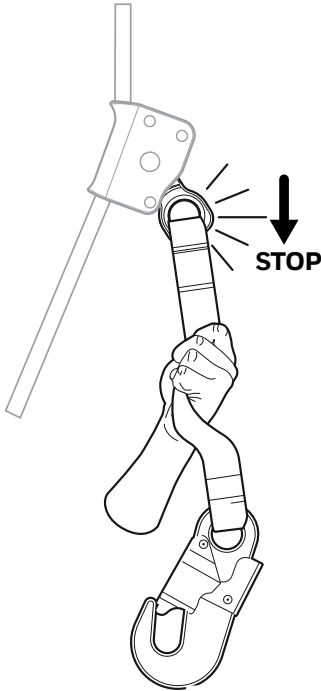

Fig. 2
- Check the rope grab locking function (Fig.2)